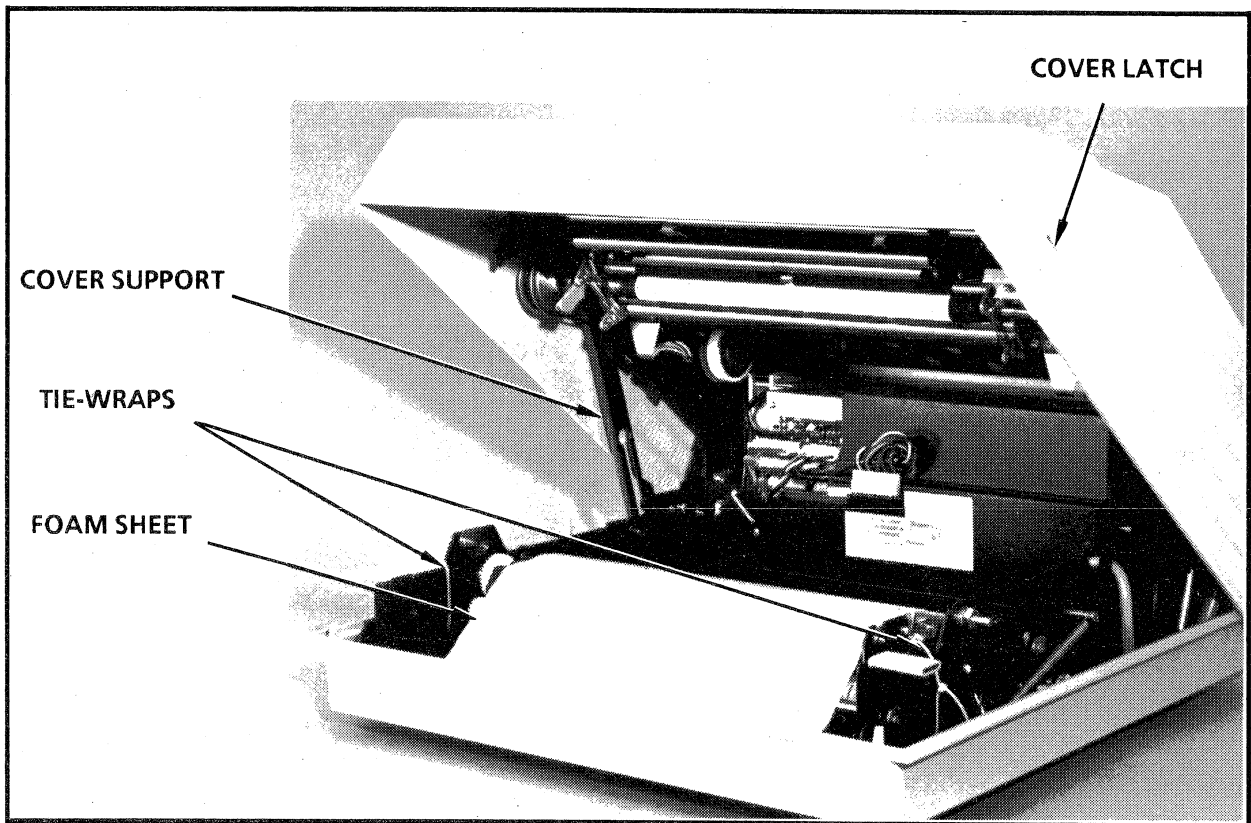

Figure 2-1. C2700 Series Thermal Plotter (cover open)
4. Pull the cover latch on the right side of the plotter chassis *up* and lift the top cover to access the interior of the plotter. Ensure the cover support is locked in place (Figure 2-1).
5. Carefully remove the protective foam sheet from the thermal printhead (Figure 2-1).
7. Cut and remove the two tie-wraps securing the ink donor roll tray guide, as shown in Figure 2-1.
- Secure the ink donor roll tray guide with tie-wraps. Refer to step 10, *Unpacking*, and Figure 2-1.